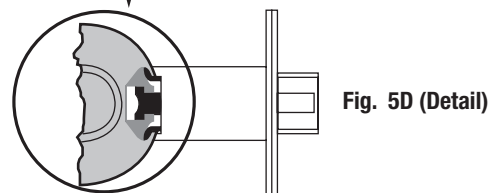

Fig. 5D (Detail)
2. Slide lock body into cross-bore hole from outside (locked side) of the door (Fig. 5D Detail).